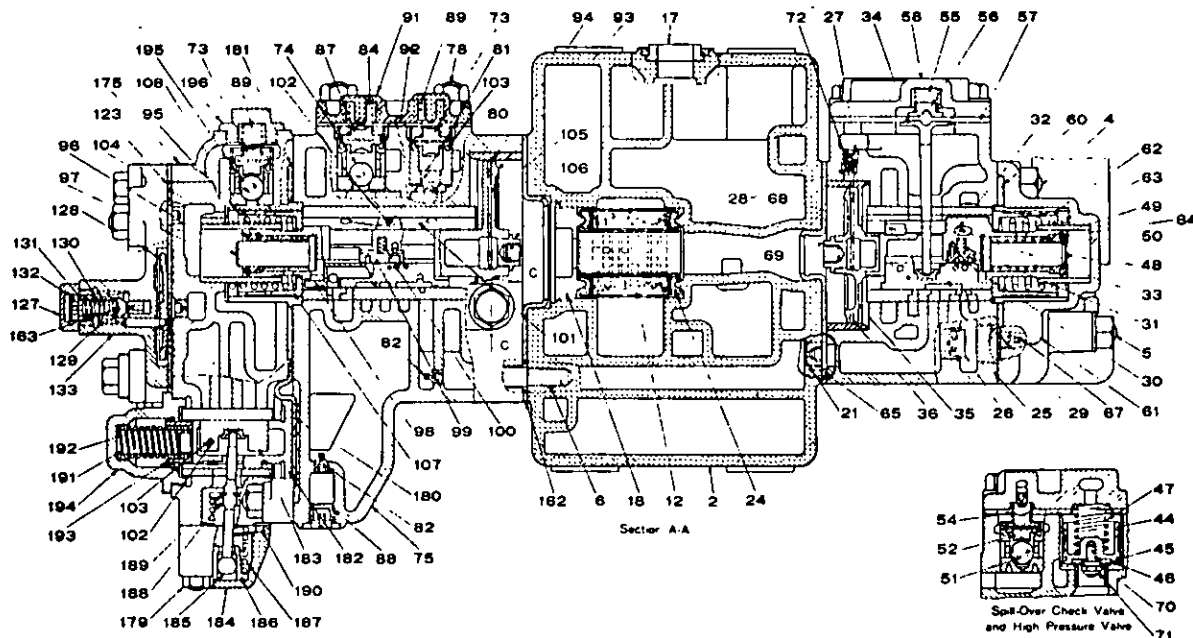

Fig. 4. Sectional View of the D-22-AR Control Valve
The PIPE BRACKET contains the quick action chamber, a removable filter element 12, three choke plugs in the service portion face and one choke plug in the emergency portion face. These plugs are identified by reference numbers on Figs. 4 and 6 and Plate 1 as follows:
21. *Emergency Choke Plug, Fig. 4*, which controls the rate of displacement reservoir build-up from the emergency reservoir when an emergency brake application is made.
The three suspension bolt holes through the bracket are protected to prevent accumulation of water and freezing. The two front holes are cut away in the middle while the rear is protected by sealing ring 17, as shown in Fig. 4.